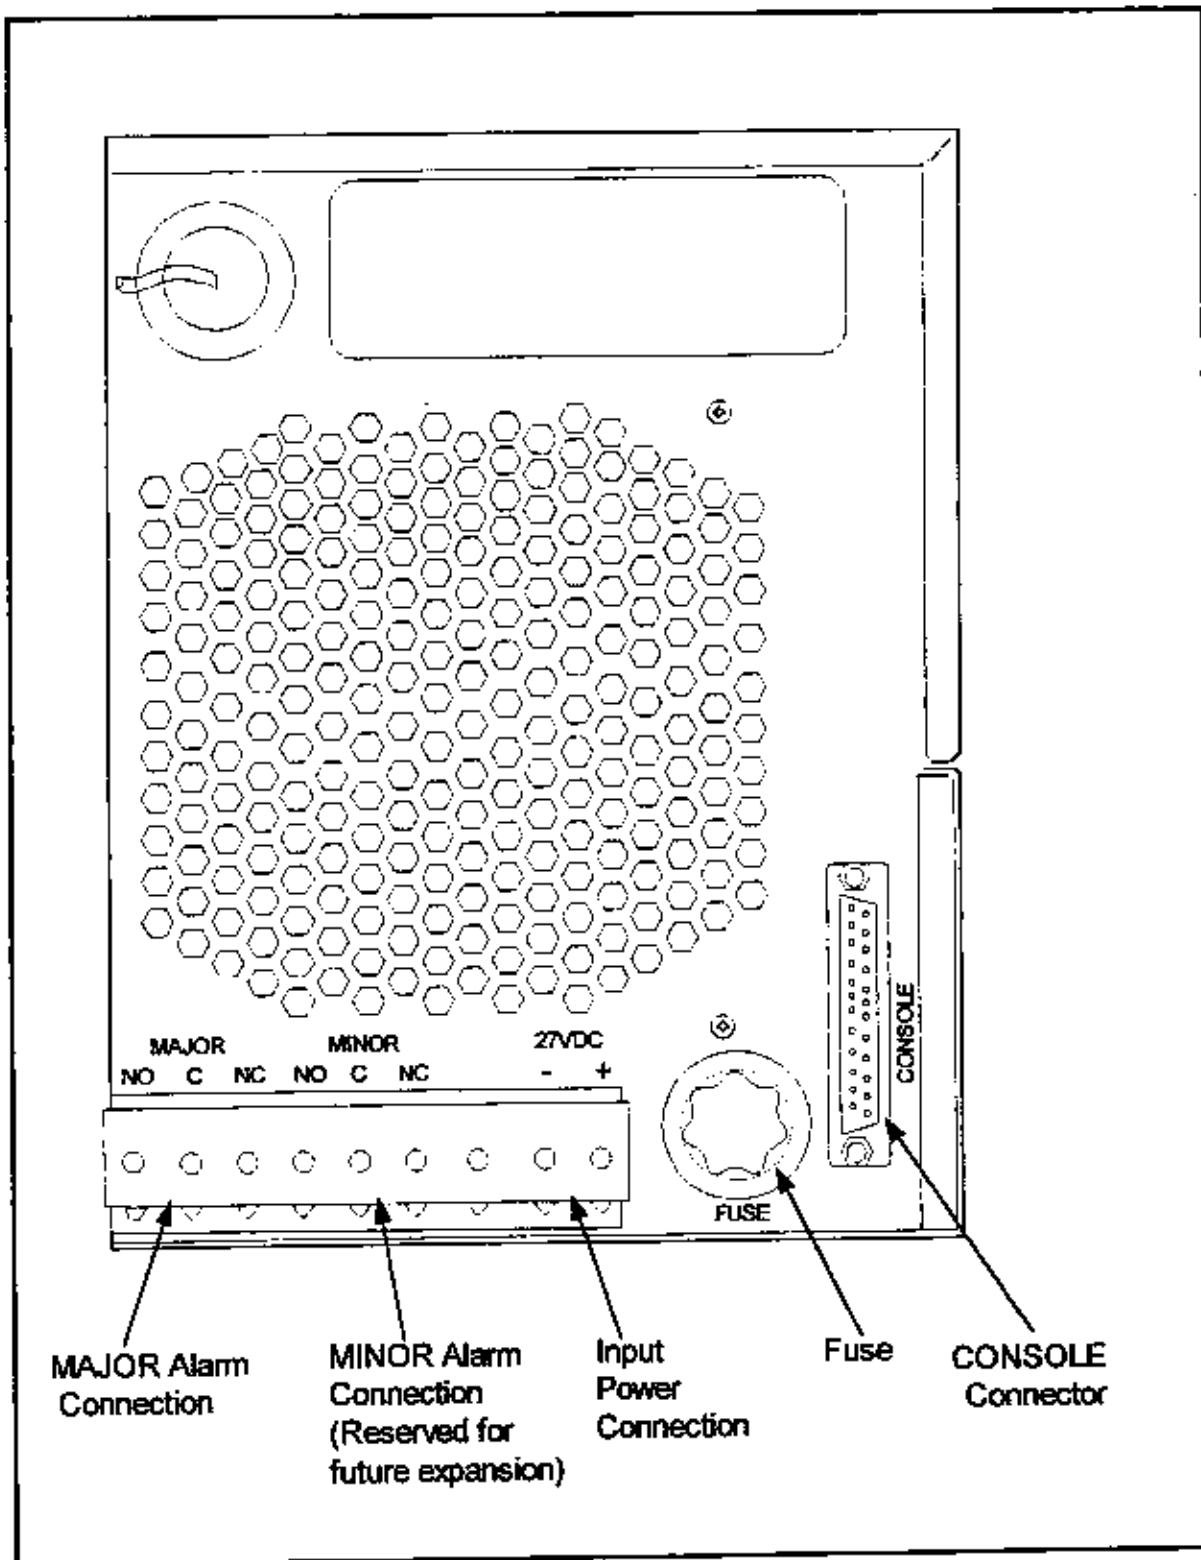

Figure 9. SuperFilter Rear Panel Power and Control Connections
2.	Run the power cable from the base station power distribution circuit breaker box to the terminal block on the rear panel of the SuperFilter. The terminal block connections are labeled POWER 27VDC + and -. See Figure 9 for rear panel terminal block connections on the SuperFilter.